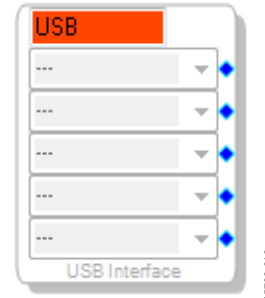

Figure 17. USBi Not Detected by SigmaStudio
- b. When SigmaStudio cannot detect the **USBi** on the USB port of the PC, the background of the **USB** label is red (see Figure 17). This error can occur when the **USBi** is not connected or when the drivers have been installed incorrectly.